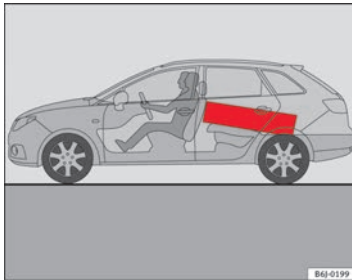

Fig. 93 Position heavy items as far forward as possible.
- Position heavy items as far forward as possible ⇒ Fig. 93.